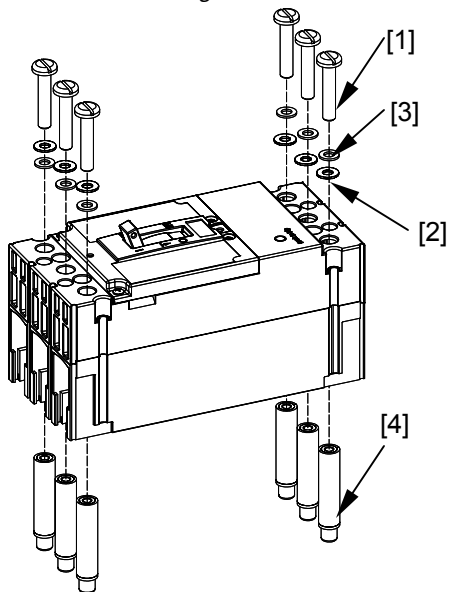

Figure 5. Assemble Male Plugs to Breaker terminals.
2. Replace each lug with male plug (4) and fasten them to breaker terminal with # 10-32 X 0.625" screw [1] and lock washer [2] and flat washer [3], as illustrated in Figure 5. Tighten the screws to 27 - 32 in-lb.